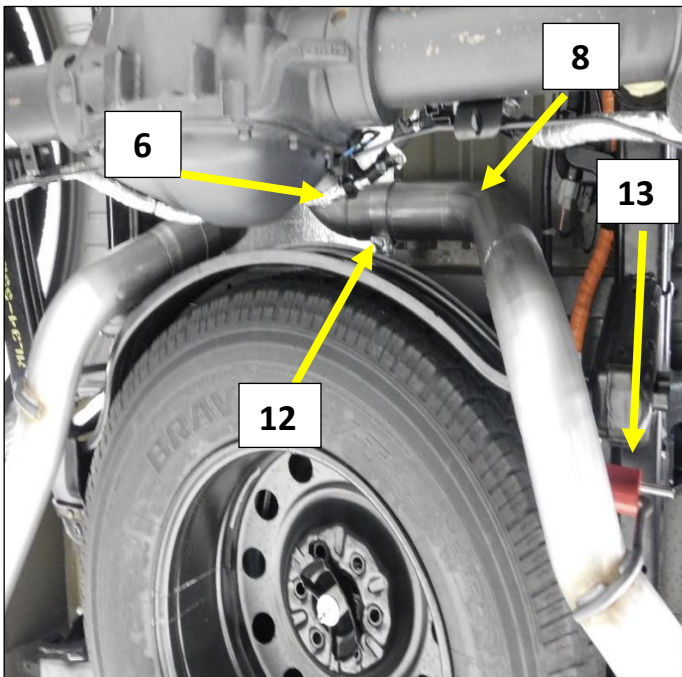

Figure 13
1. Install a 3" band clamp (12) on to the expanded end of the left muffler outlet pipe (6). Install the 3" clamp (12) with the bolt towards the rear of the truck and the nut facing down. **Fig. 13**
2. Install the left tailpipe (8) into the left muffler outlet pipe (6), align the hanger rods at the frame hanger, and install the red isolator (13). Use Spray lube on the rods. **Fig. 13** - Tighten the clamp to allow for adjustment.